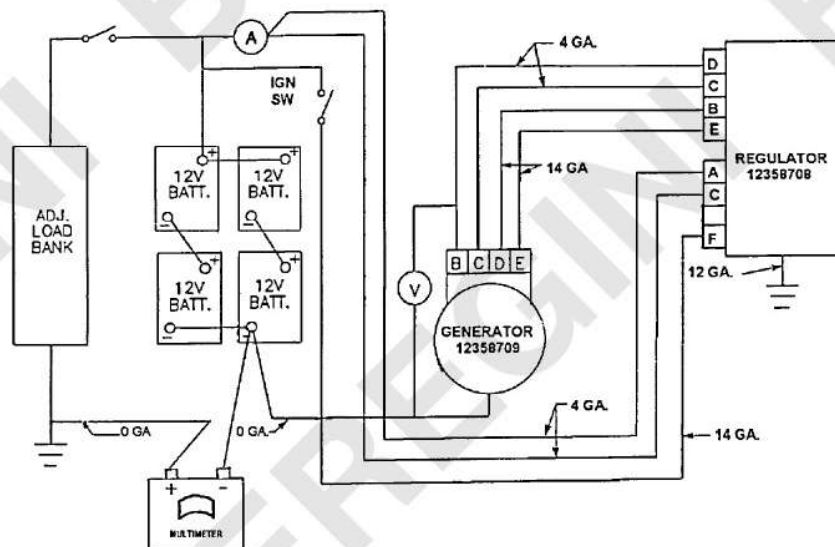

Figure 2-13. Charging System Schematic
c. Attach multimeter as indicated in Figure 2-13. If an in-line multimeter is used, disconnect battery ground cable before connecting multimeter. Then reconnect battery ground cable. Multimeter connections must carry rated output of generator.
b. Mount generator on test bench according to the bench manufacturer's instructions. Refer to **Figure 2-13** for set-up to measure voltage and amperage produced by generator. For bench tests, voltage is normal when it is within the normal range of **Table 2-2**, and amperage is high when it is within +/- 10 % of rated output (output 5000 RPM).